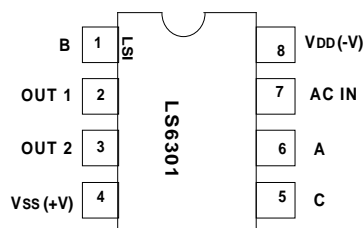

FIGURE 1
- LS6301 (DIP); LS6301-S (SOIC) - See Figure 1